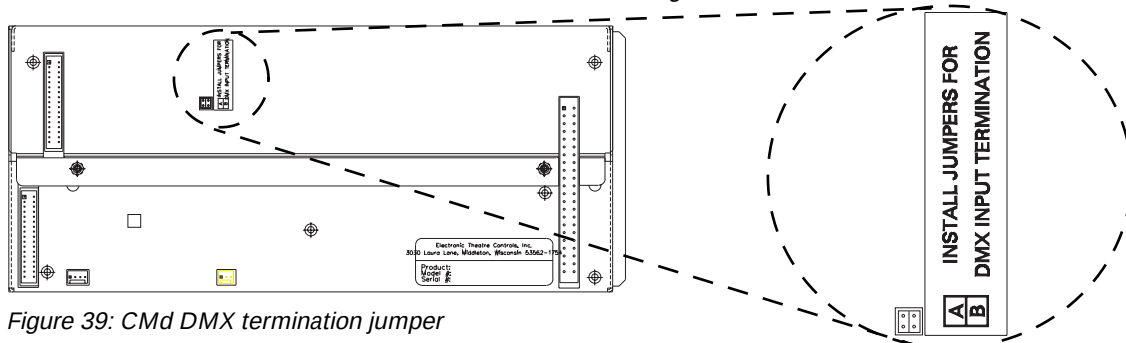

Figure 39: CMd DMX termination jumper
15. Verify that the DMX termination jumpers are installed on the back of the CMd control module as shown in Figure 39.
7. Verify that DMX termination jumpers are installed only in the last CMd control module in the system (i.e., the end of line). Jumpers must be removed from all other control modules to avoid signal distortion and insure proper system operation. See *Figure 39* on page 28.
8. Verify that the DMX termination jumpers are installed on the back of the CMED control module as shown in *Figure 39*.